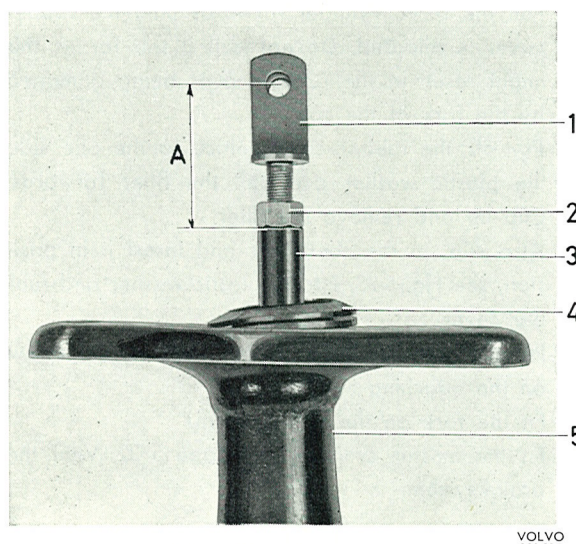

Fig. 5-77. Fitting the fork
5. Loosen the locknut (2, Fig. 5-77) and unscrew the fork (1). Remove the rubber cover (4) and the bracket (5). Unscrew the thrust rod (3) from the rear thrust rod of the cylinder.
1. After lubricating the thrust rod (3, Fig. 5-77) with a couple of drops of Locktite, type B, screw it into the rear thrust rod of the servo cylinder as far it can go.
3. Fit the rubber cover (4, Fig. 5-77) in position. Screw on locknut (2) and fork (1). The distance between the centre of the fork hole and the end of the thrust rod (dimension A) should be approximately 45 mm (1.77").